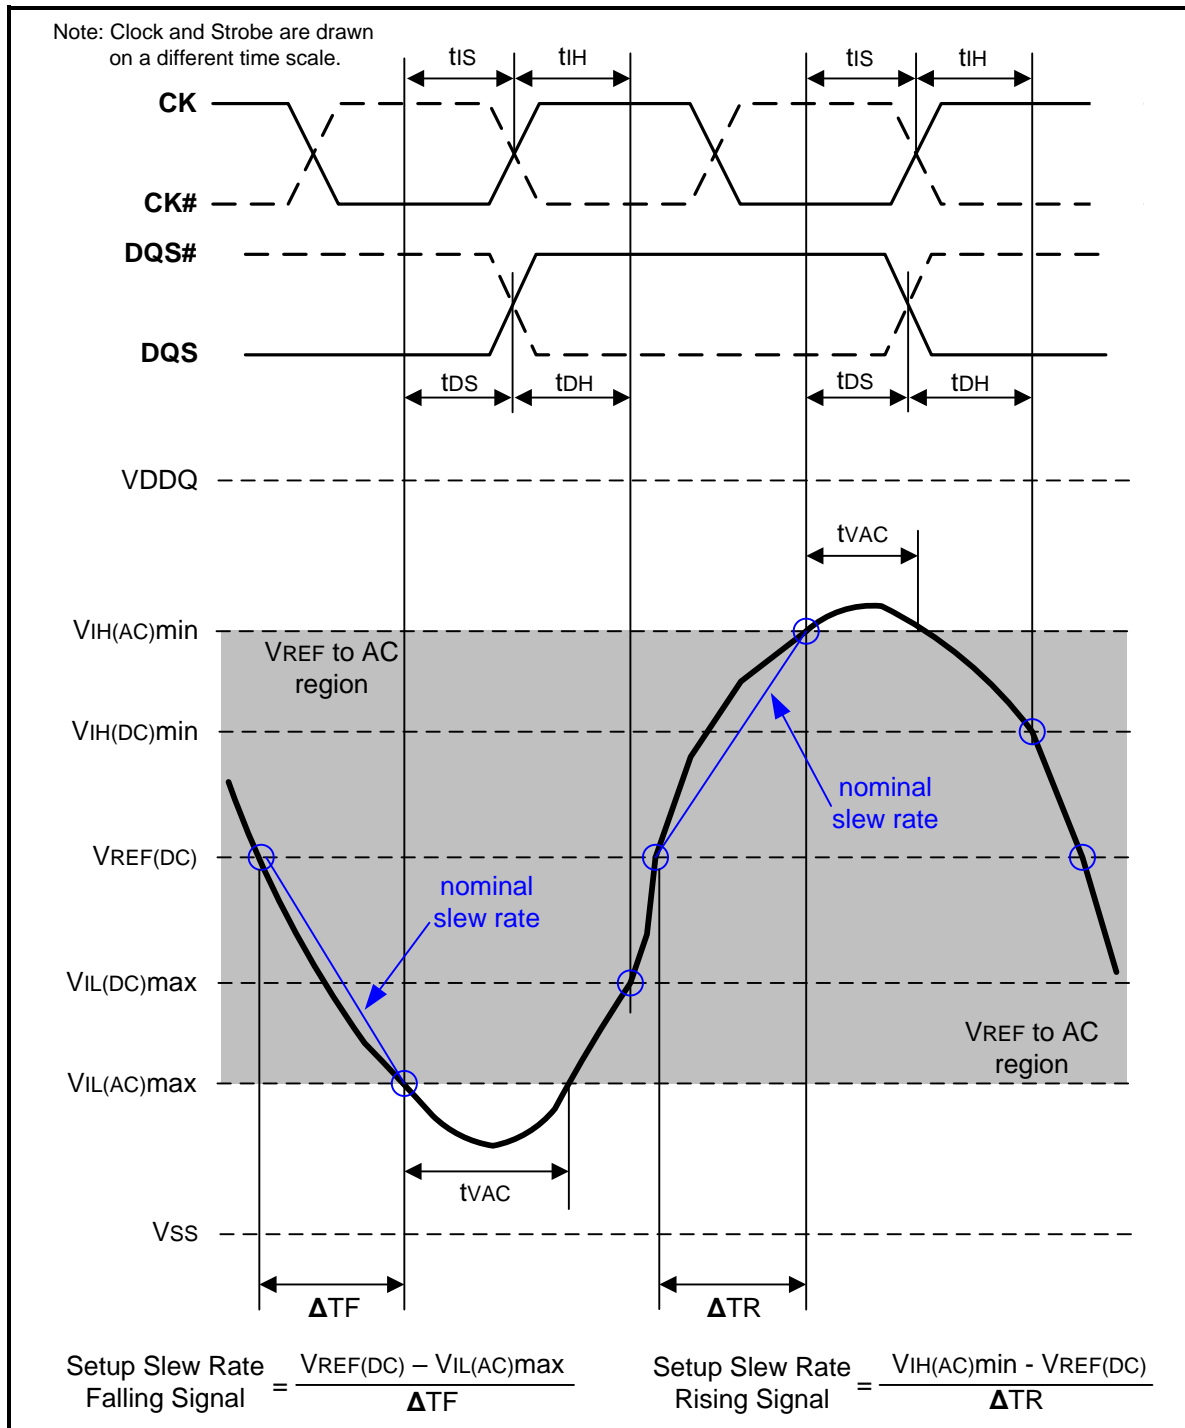
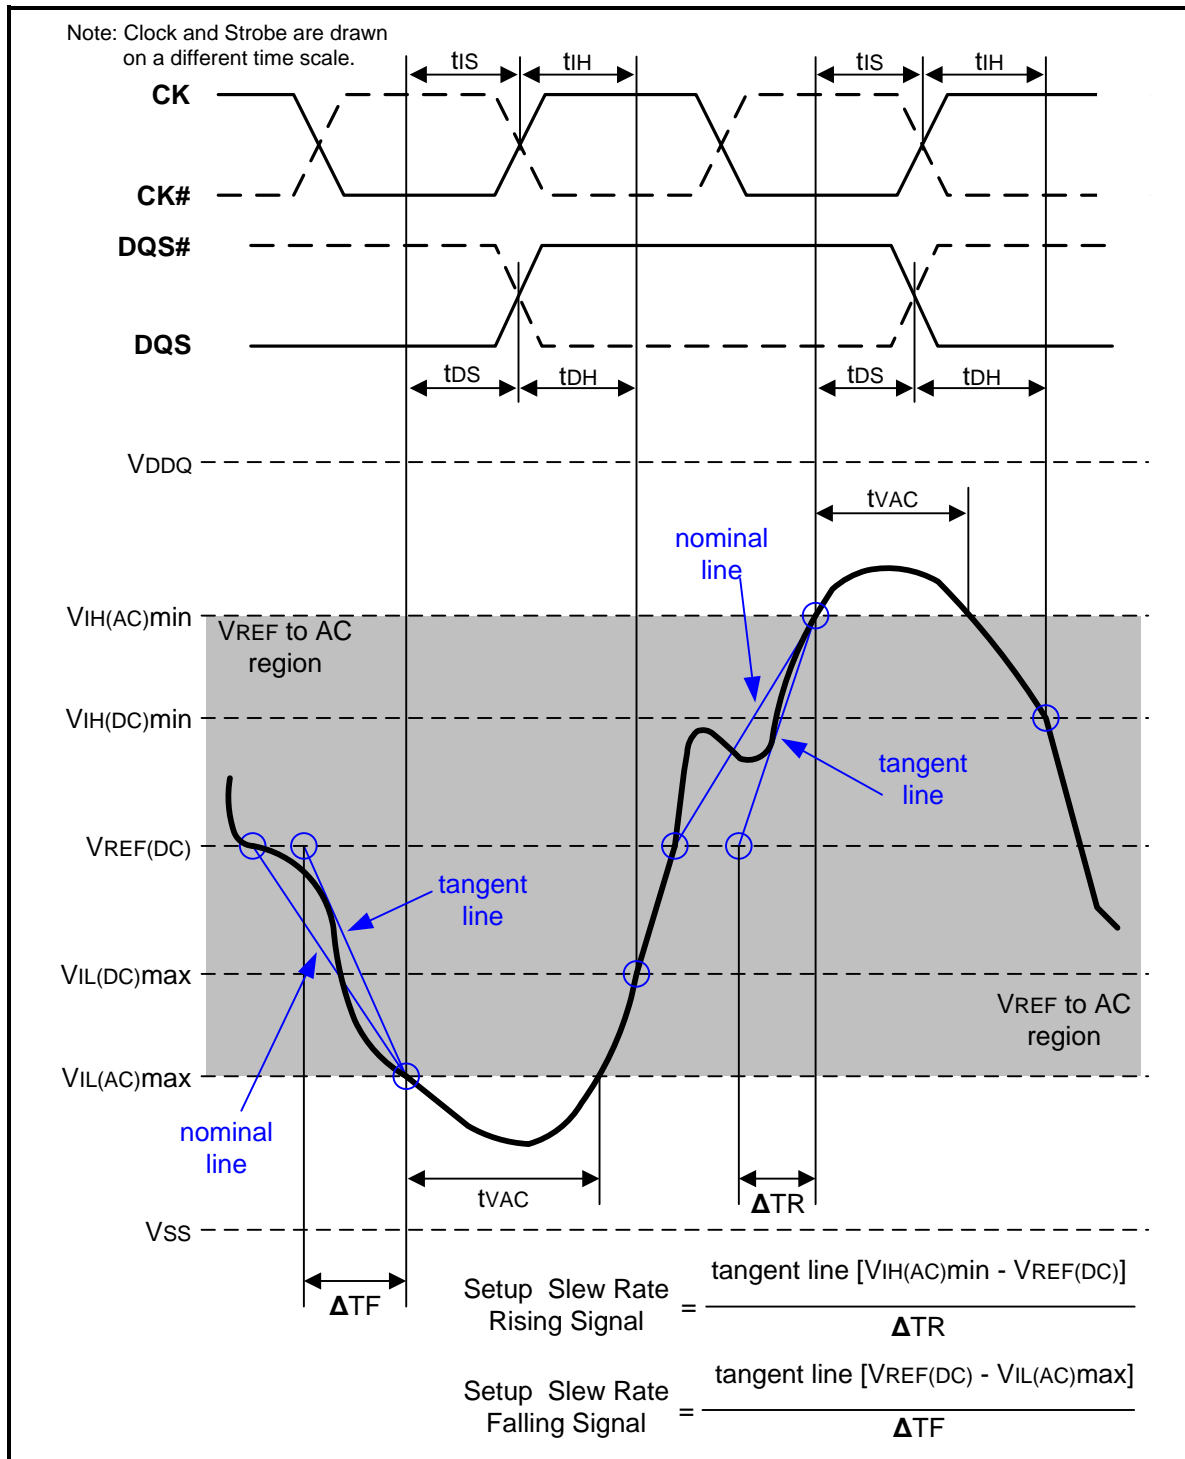

Figure 107 – Illustration of nominal slew rate and tvac for setup time tDS (for DQ with respect to strobe) and tIS (for ADD/CMD with respect to clock)
Figure 109 – Illustration of tangent line for setup time t_{DS} (for DQ with respect to strobe) and t_{IS} (for ADD/CMD with respect to clock)
Setup (t_{IS}) nominal slew rate for a rising signal is defined as the slew rate between the last crossing of $V_{REF(DC)}$ and the first crossing of $V_{IH(AC)min}$. Setup (t_{IS}) nominal slew rate for a falling signal is defined as the slew rate between the last crossing of $V_{REF(DC)}$ and the first crossing of $V_{IL(AC)max}$. If the actual signal is always earlier than the nominal slew rate line between shaded 'VREF(DC) to AC region', use nominal slew rate for derating value (see Figure 107). If the actual signal is later than the nominal slew rate line anywhere between shaded 'VREF(DC) to AC region', the slew rate of a tangent line to the actual signal from the AC level to $V_{REF(DC)}$ level is used for derating value (see Figure 109).
Setup (tDS) nominal slew rate for a rising signal is defined as the slew rate between the last crossing of VREF(DC) and the first crossing of VIH(AC)min. Setup (tDS) nominal slew rate for a falling signal is defined as the slew rate between the last crossing of VREF(DC) and the first crossing of VIL(AC)max (see Figure 107). If the actual signal is always earlier than the nominal slew rate line between shaded 'VREF(DC) to AC region', use nominal slew rate for derating value. If the actual signal is later than the nominal slew rate line anywhere between shaded 'VREF(DC) to AC region', the slew rate of a tangent line to the actual signal from the AC level to VREF(DC) level is used for derating value (see Figure 109).